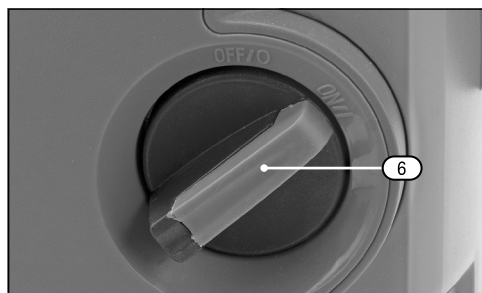
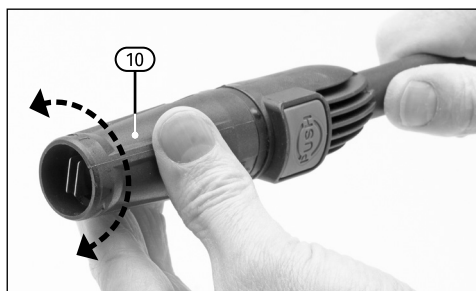

Fig. 15
Fig. 18
7.2 Switching On (Fig.15 – Fig.18)